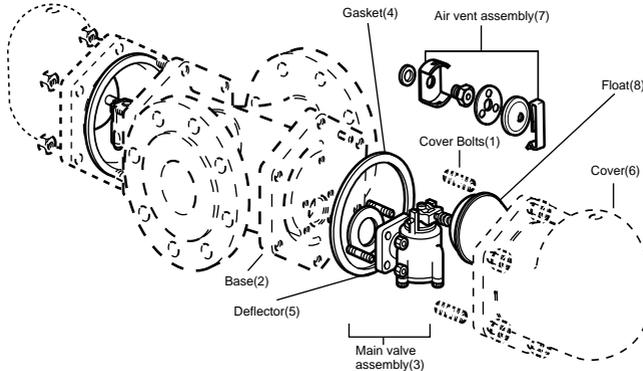

Figure 6: Maintaining the main valve assembly
#### 7.4 Maintaining/ Replacing the main valve assembly : (Refer to Figure 6)
**9.** Available Spares: (Refer to Figure 6)